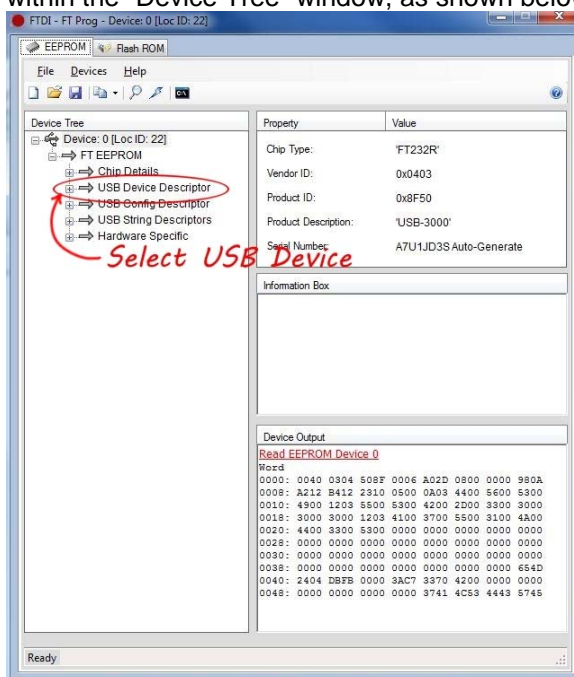
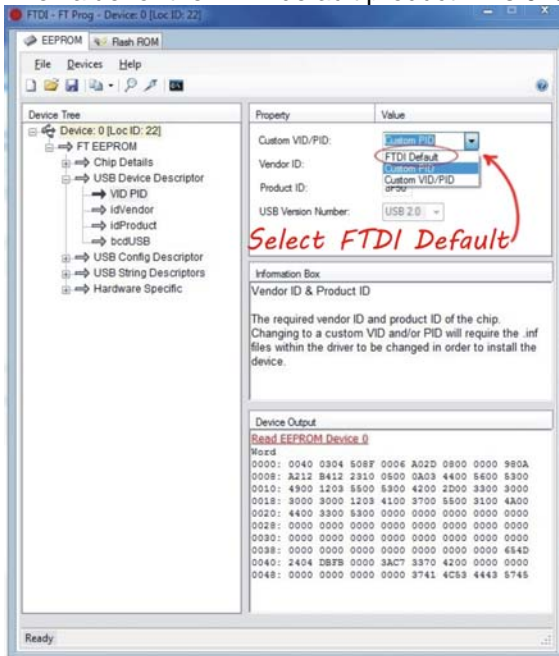
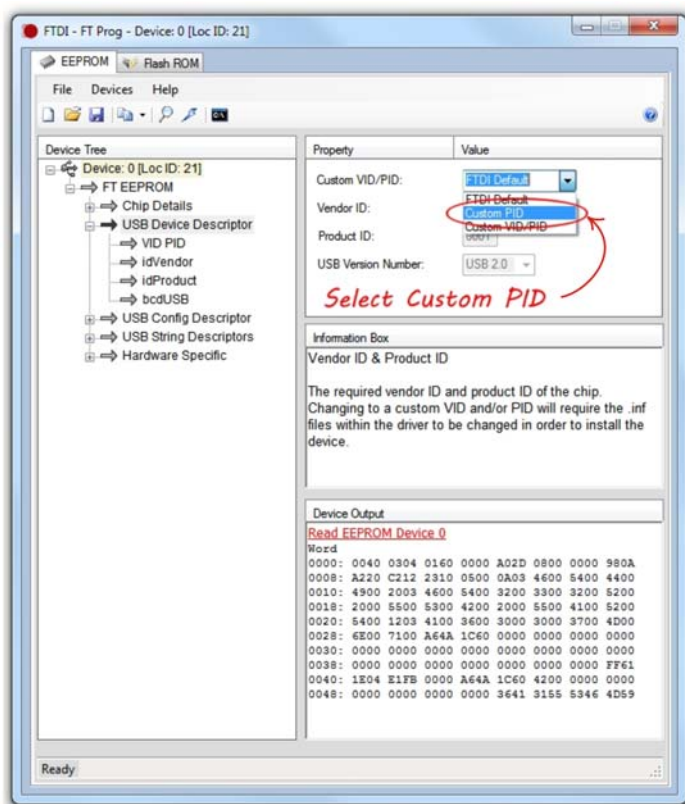

Figure 4 Select USB device
Figure 5 Select FTDI default setting
Figure 10 Reprogram DVSI Product ID
Step 6. To change the Product ID from DVSI's PID to the FTDI's default PID select the USB Device Descriptor in the left window panel. Expand it by clicking on the "+" sign. Figure 4 Select USB device Then in the right side window panel click on the Custom VID/PID pull down menu and select FTDI Default. Figure 5 Select FTDI default
Revert Step 6: To change the Product ID from FTDI's default PID to DVSI's PID select the USB Device Descriptor in the left window panel. Expand it by clicking on the "+" sign. Figure 4 Select USB device, then in the right side window panel click on the FTDI Default pull down menu and select Custom PID. See Figure 10 Reprogram DVSI Product ID.